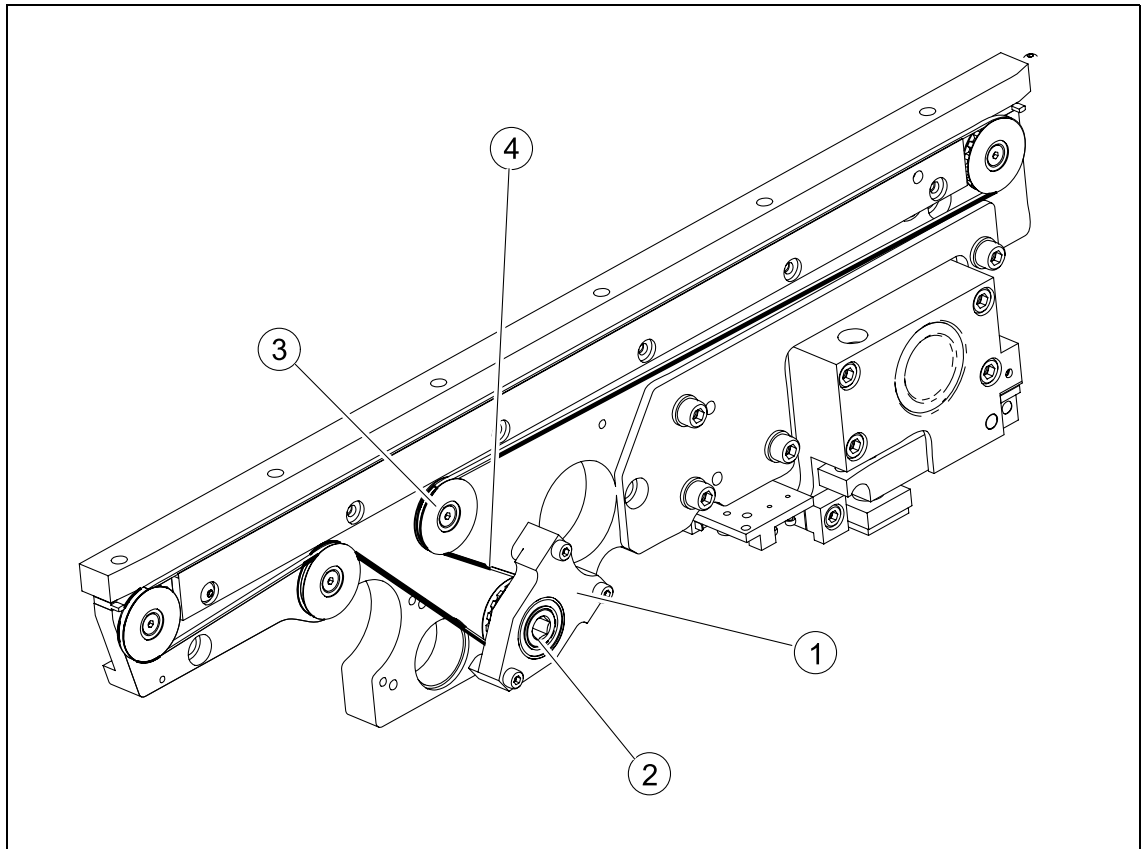

Fig. 6.10.7 Replacing the conveyor toothed belt (example with mounting)
- If the **mount** is installed, remove the clamping ring or circlip on the mount and the 3 screws fastening the mount in place (see Fig. 6.10.7).